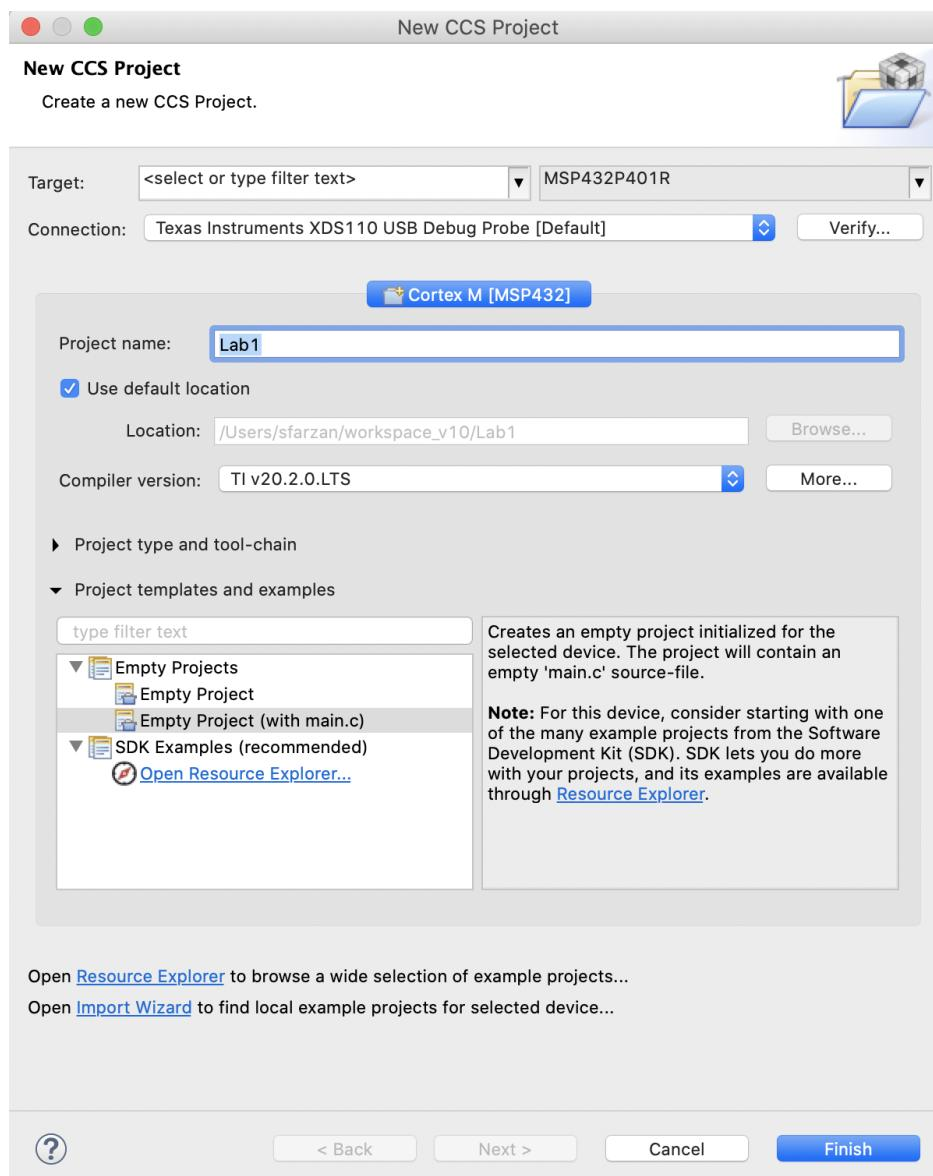

Figure 6: Creating a new CCS project.
- In the New CCS Project wizard (shown in Figure 6), type or select the Target device as MSP432P401R.